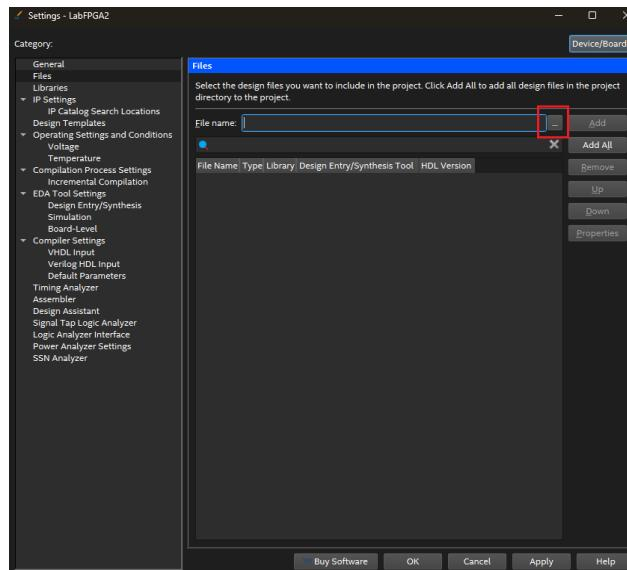

Figure 2. Select File
4. Under Settings - LabFPGA, click the three dots next to File name, as shown in Figure 2, and browse to select the file **LabFPGA2.sv** located at Desktop\LabFPGA_DE10St\LABResources\LabFPGA2.